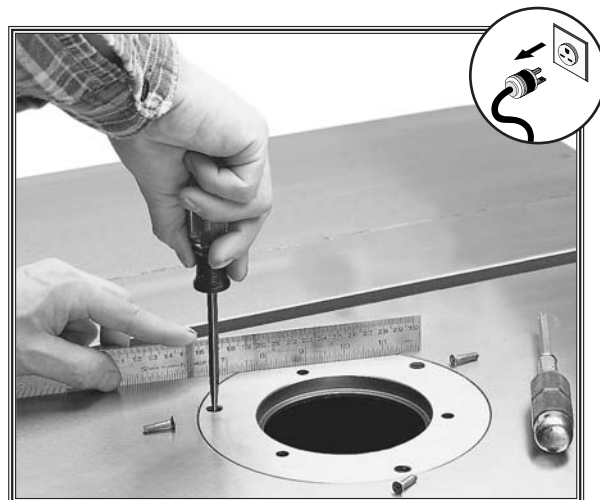

Figure 17. Leveling the table insert ring.
The aluminum table insert is held in place by a cast iron insert ring, which should be adjusted level with the table top (see **Figure 17**). This is necessary to avoid the workpiece catching on the insert or ring during operation, causing an unsafe condition and poor cutting results.
3. Lay a precision straightedge across the insert ring and the table, then adjust the three set screws that are in the other holes (see **Figure 17**) until the insert ring is level with the table top in all directions.